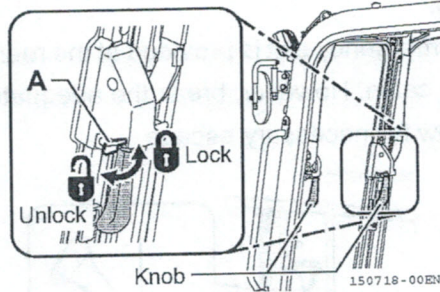

Fig. 2-86
1. Hold the right and left knobs with the corresponding hands while sitting in the operator's seat and push the window lock lever (Fig. 2-86, A) downward to release the lock.